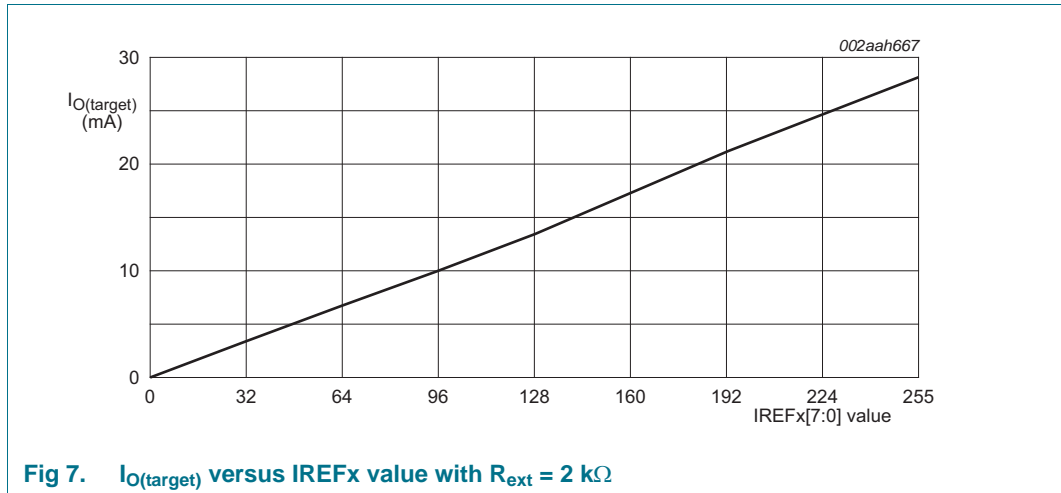

Fig 7. IO(target) versus IREFx value with Rext = 2 kΩ
**Example 2:** If  $R_{ext} = 2 \text{ k}\Omega$ ,  $I_{O\_LED\_MIN} = 112.5 \text{ }\mu\text{A}$ ,  $I_{O\_LED\_MAX} = 28.687 \text{ mA}$  (as shown in Figure 7).